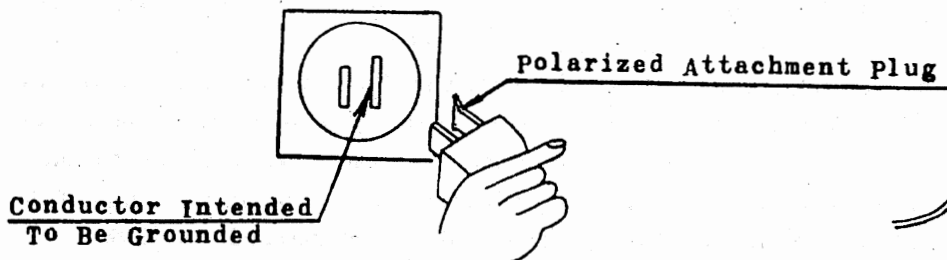

FIG.2
3. Connect the controller source plug to electrical outlet shown as fig.2. This appliance has a polarized plug (one blade wider than the other). To reduce the risk of electric shock, this plug is intended to fit in a polarized outlet only one way. If the plug does not fit fully in the outlet, reverse the plug. If it still does not fit, contact a qualified electrician to install the proper outlet. Do not modify the plug in any way.